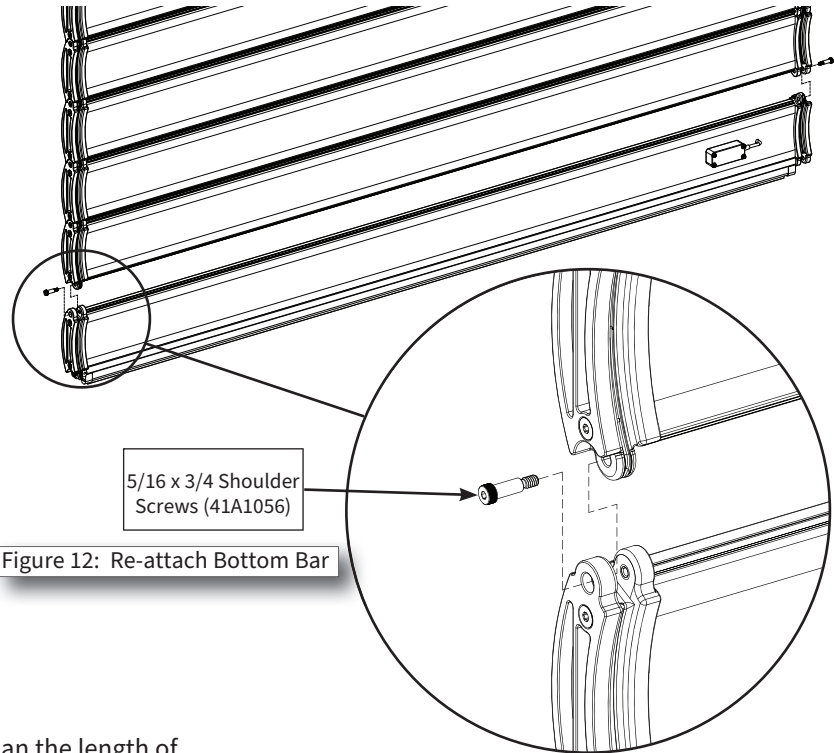

Figure 12: Re-attach Bottom Bar
- 2 Support the bottom bar assembly from below, line up holes in end caps, and replace the 5/16 x 3/4 shoulder screws 41A1056 on both ends of slat (Figure 12).